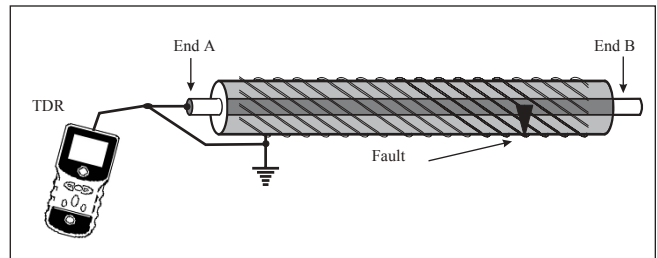

Figure 9: TDR test for cable length
- At end A, connect a TDR or DART® Cable Analyzer (use the TDR mode) between the faulted conductor and neutral or shield as shown in Figure 9. Look for an upward reflection from the open end of the cable and measure the length to the open using the cursors.